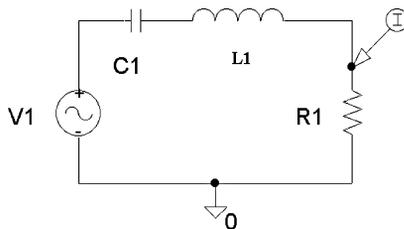

FIGURE 6.42: Frequency response
- (2) The parallel-tuned frequency response is shown in Fig. 6.42.